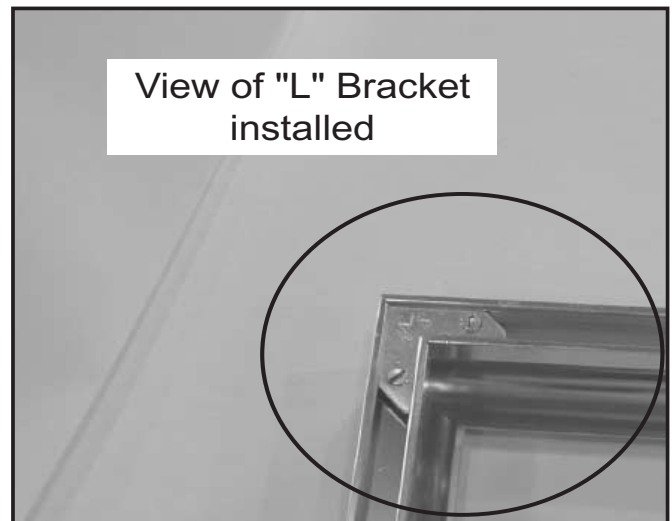

Figure 15C
2. Attach the 2 side trim pieces to the top trim at each corner using the "L" bracket included in fasteners package. Slide assembled trim over panel set. **See Figure 15C.**